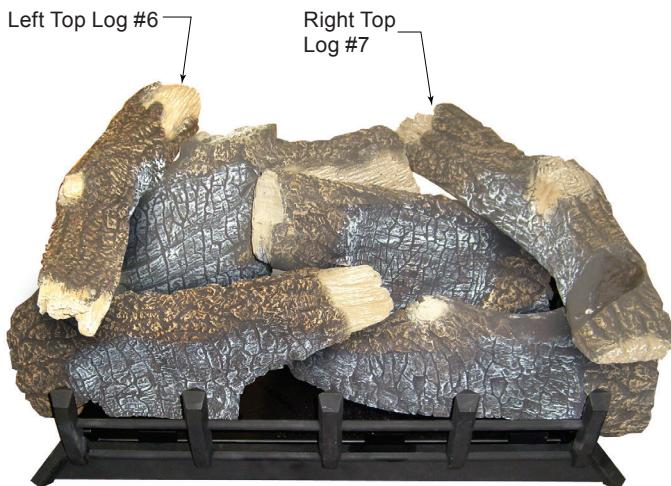

Figure 39.
- locating blocks on logs #4 and #5. Figure 39.
7. Place right top log (#7) on right rear log (#3) and right front log (#2) using locators on the bottom of log #7 and locators on logs #2 and #3. Figure 39.